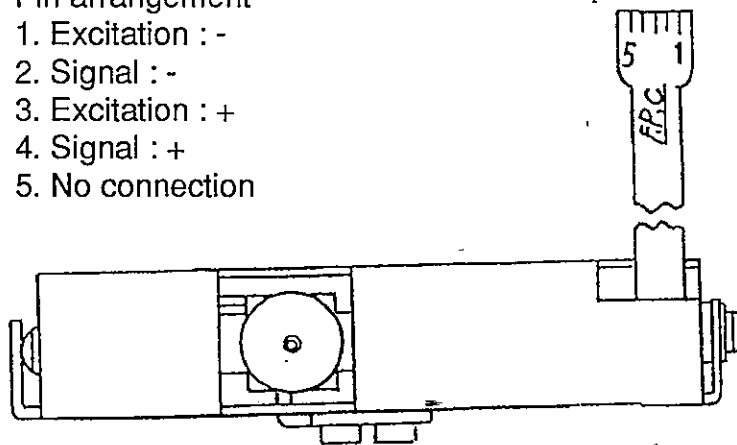

Figure 3
- (3) The pin arrangement of the FPC connector is shown in Figure 3.